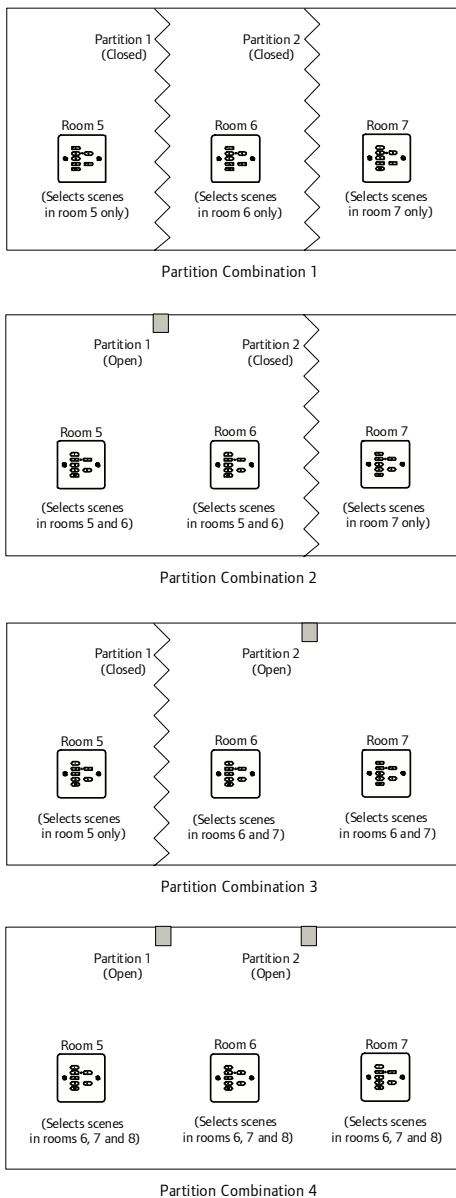
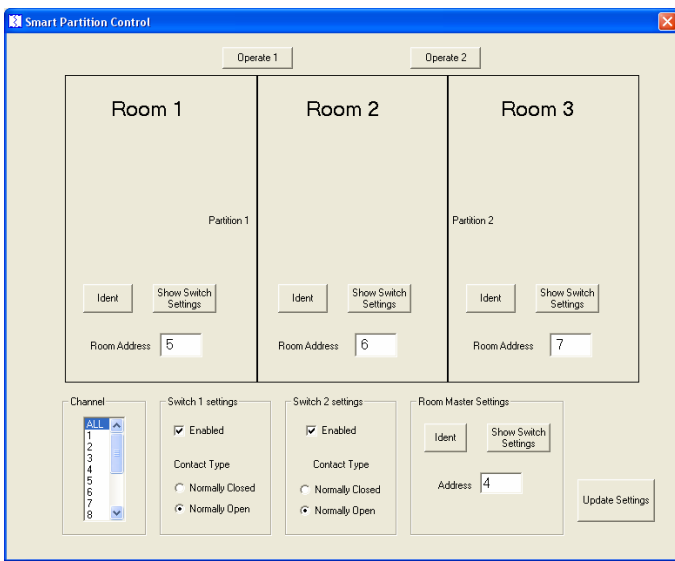

Fig 1 – Room Combinations
Fig 4
The Rako RAIPC is an intelligent partition control unit designed for use rooms that are divisible into smaller rooms by demountable partitions. The unit accepts inputs from up to 2 partitions giving a total of 3 individual rooms or combinations thereof. (see fig 1). With local control panels located in each of the rooms and with both partitions closed, each of the control panels will control their respective rooms. Opening the partition between rooms 1 and 2 will allow the scenes in both rooms to be selected from either of the control panels. This follows for the other room combinations as shown in fig 1 below. Initial configuration is achieved using the RASOFT programming software.
e.g. Choosing the group master room 4 corresponds to partitioned rooms 5, 6 and 7. Group master room 8 corresponds to partitioned rooms 9, 10 and 11 and so on. The rule is that the group master room must be divisible by 4. This explains the room numbers chosen in fig 1.
Using the room numbers in fig 1 as an example. Open the RASOFT program and on the main screen select the **Controls** menu then **Partition setup**. This will open the screen as shown in fig 4 below.